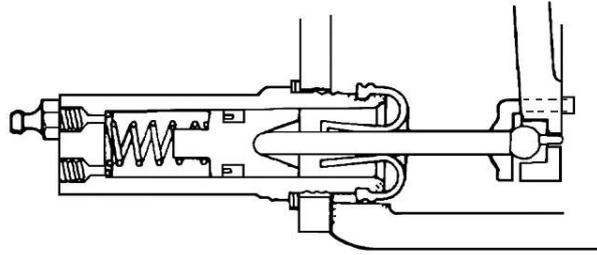

Figure 12 Installation of the Slave Cylinder
- j.** Smear the inside of the dust cover with clean hydraulic fluid and install the dust cover on the cylinder. Install the slave cylinder into the transmission bell housing ensuring that the push rod is inserted into the dust cover (Figure 12) and the bleed screw is uppermost.